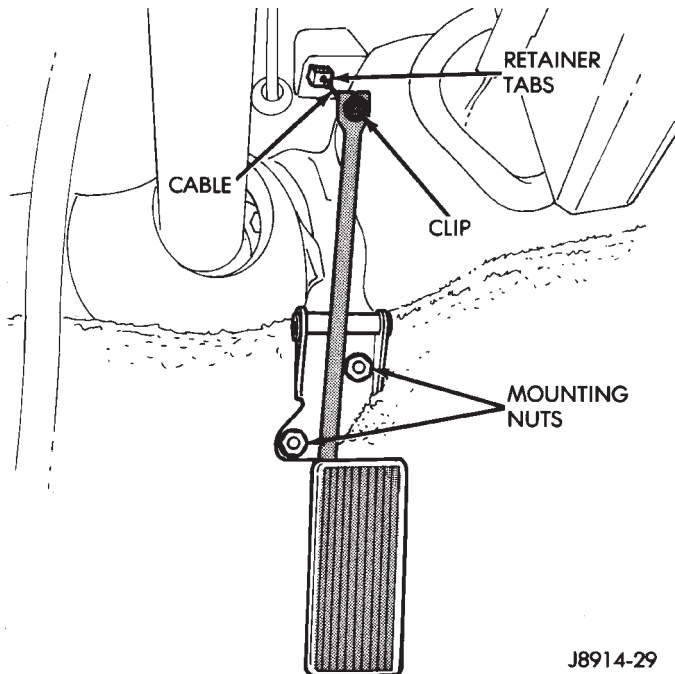

Fig. 38 Accelerator Pedal Mounting—Typical
The accelerator pedal is connected to the throttle body linkage by the throttle cable. The cable is protected by a plastic sheathing and is connected to the throttle body linkage by a ball socket. It is connected to the upper part of the accelerator pedal arm by a plastic retainer (clip) (Fig. 38). This retainer (clip) snaps into the top of the accelerator pedal arm. Retainer tabs (built into the cable sheathing) (Fig. 38) fasten the cable to the dash panel.
(1) From inside the vehicle, hold up accelerator pedal. Remove plastic cable retainer (clip) and throttle cable core wire from upper end of accelerator pedal arm (Fig. 38). Plastic cable retainer (clip) snaps into pedal arm.
(2) Remove accelerator pedal mounting bracket nuts. Remove accelerator pedal assembly.
- (1) From inside vehicle, hold up accelerator pedal. Remove plastic cable retainer (clip) and throttle cable core wire from upper end of accelerator pedal arm (Fig. 38). Plastic cable retainer (clip) snaps into pedal arm.
- (2) Remove cable core wire at pedal arm.
- (3) From inside vehicle, pinch both sides of cable housing retainer tabs (Fig. 38) at dash panel. Remove cable housing from dash panel and pull into engine compartment.